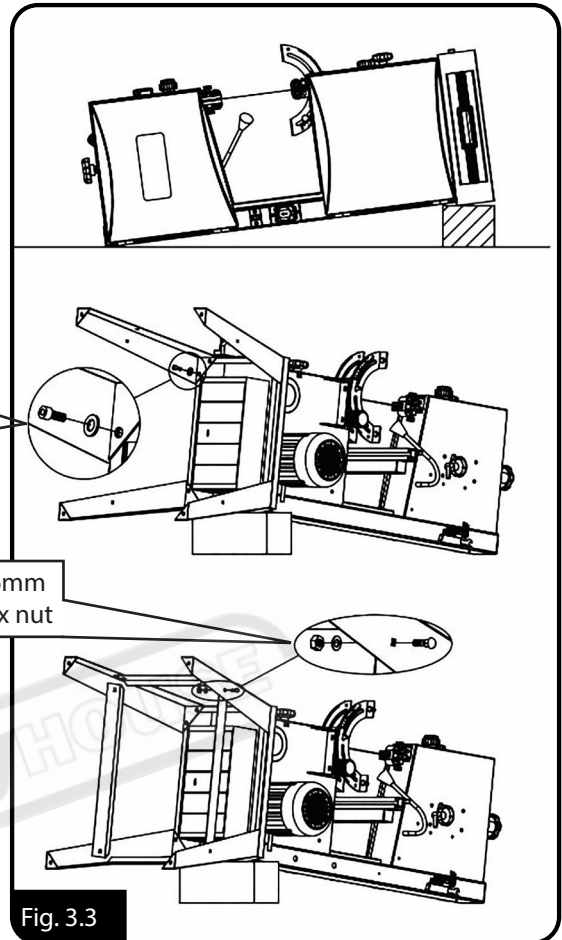

Fig. 3.3
- ☐ Put down the machine on a timber (Fig. 3.3)